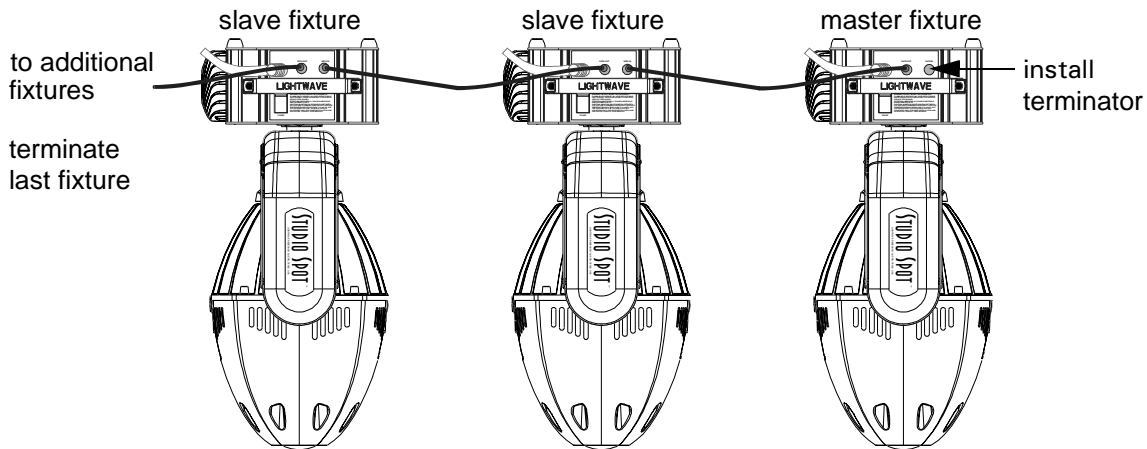

Figure 4.4. Daisy Chaining Fixtures
2. Daisy chain slave fixtures by connecting cables from the DATA OUT connector to the DATA IN connector on subsequent DATA fixtures. Refer to Figure 4.4.
3. Install terminators on both ends of the link. Refer to Figure 4.4.